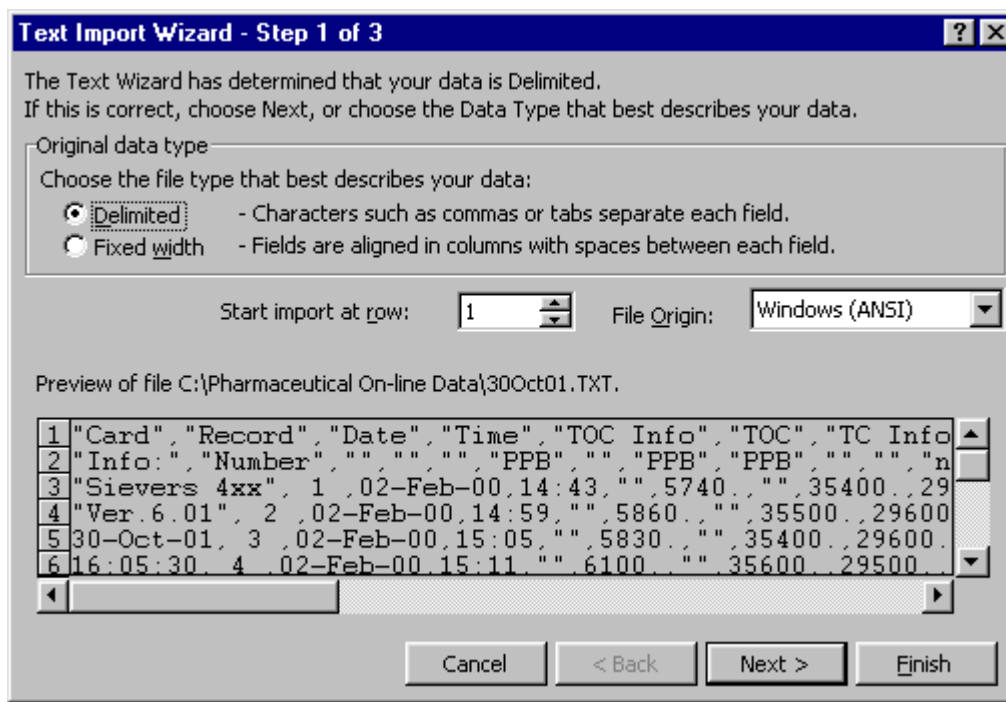

Figure 51: Step 1 of the MS Excel Text Import Wizard
6. Depending on the version of Excel you have, Excel may automatically start the "Text Import Wizard" to help you create a spreadsheet from the data in the file. If the "Text Import Wizard" dialog box appears (Figure 51), make sure **Delimited** is selected and press the **Next** button.